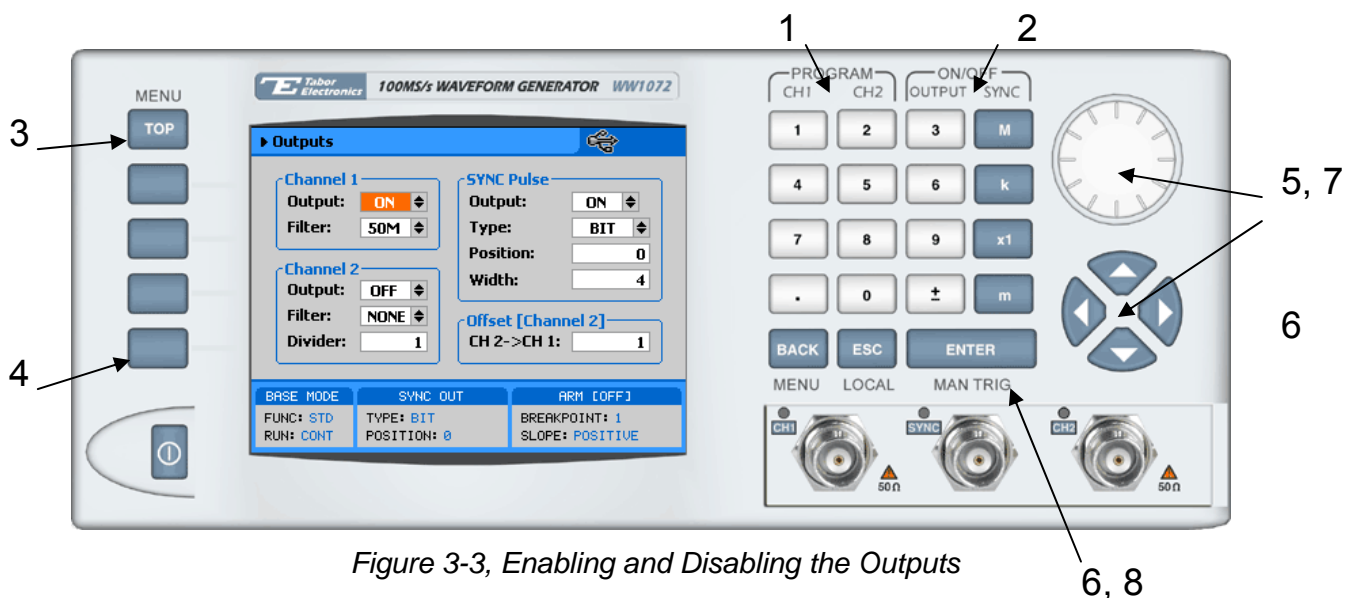

Figure 3-3, Enabling and Disabling the Outputs
For safety reasons, main outputs default setting is OFF. The outputs can be turned on and off using either the hot keys, or from the Output Menu. Observe Figure 3-3 and disable or enable the main outputs using the following procedure. The same procedure can be used for enabling and disabling the SYNC output. The numbers on Figure 3-3 correspond to the procedure steps in the following description.
4. Press Outputs to open the Outputs dialog box as shown in Figure 3-3